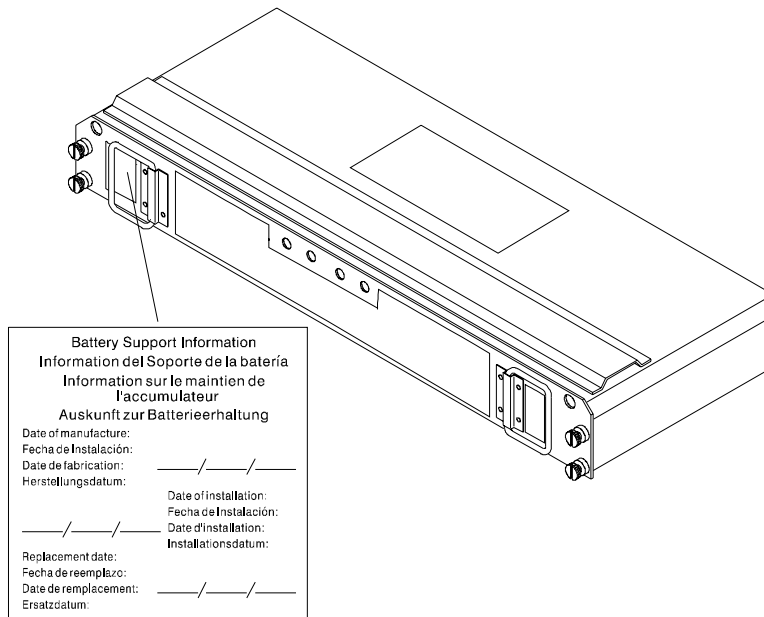

Figure 18. Recording the battery support information
- The service label on the battery provides a blank line for recording the last date on which the battery was serviced (see Figure 18 on page 36). Check this label to determine when to replace the battery. For information about using the software to track battery age, refer to the Netfinity FAStT Storage Manager documentation and online help.
Unpack the battery CRU. Save the packing material for shipping the used battery CRU to a disposal facility. Find the “Battery Support Information” label on the front of the new battery CRU, as shown in Figure 18.